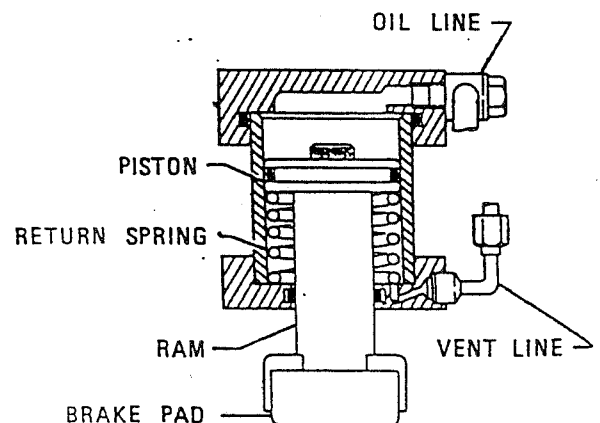

Figure 1-21. 1200/5000 Series Side Move Base Cylinder
5. Brake Cylinders (Side Move Base) - The brake cylinders on the optional side move base are single action cylinders similar to the elevation cylinder. The movable piston's ram is connected to a brake pad. Oil pumped into the top of the cylinder pushes the piston down and raises the table base off its casters. An internal return spring on the bottom of the piston pushes the piston up to return the oil through the brake release valve to the reservoir. Vent lines connect the bottom of the cylinder to the reservoir. See figure 1-21.